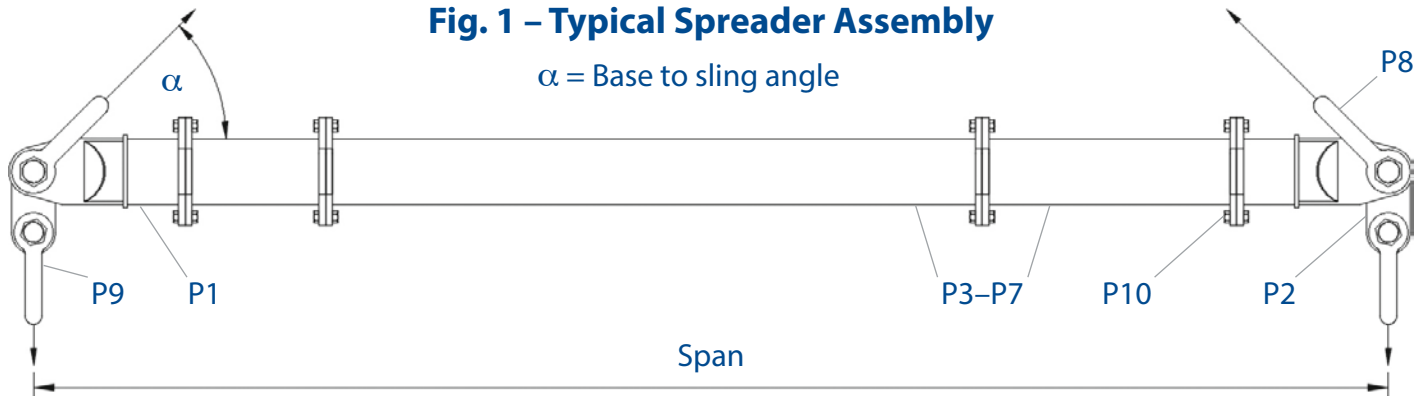

Fig. 1 – Typical Spreader Assembly
- Do ensure to load the spreader through the drop links only. i.e. adhere to **Fig. 1**.